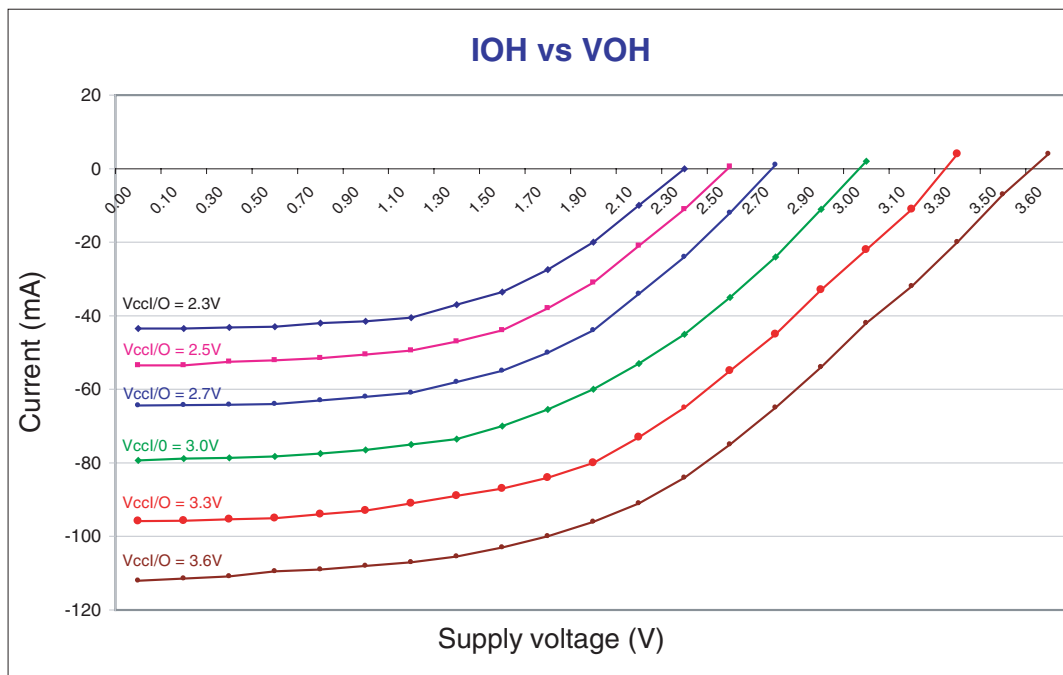

Figure 17: IOH vs. VOH
**NOTE:** The data provided in **Table 14** are JEDEC and PCI Specifications. QuickLogic® devices either meet or exceed these requirements. For data specific to QuickLogic I/Os, see **Table 1** through **Table 13** and **Figure 1** through **Figure 17**.